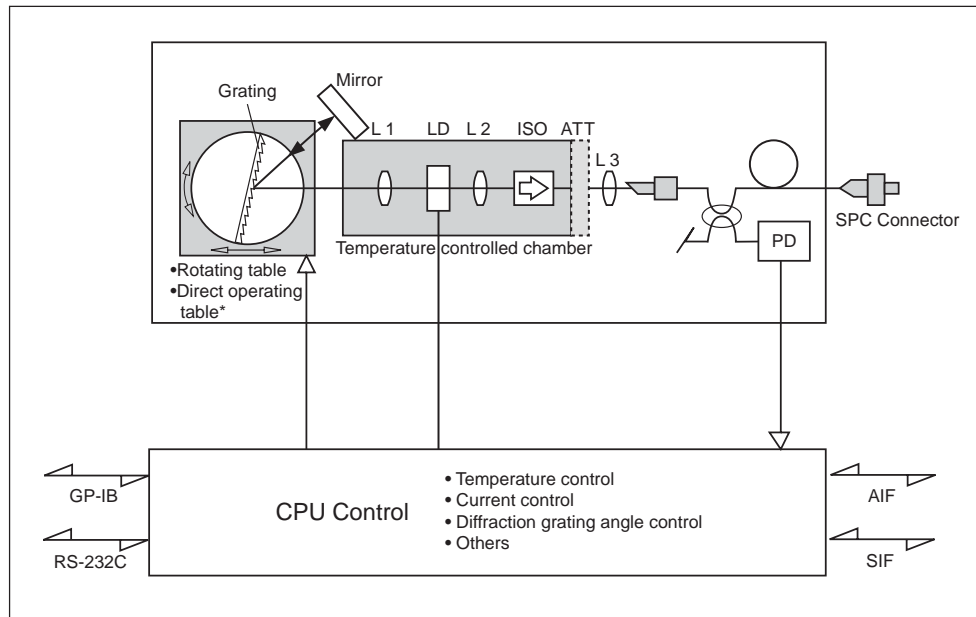

FIG.1 Structure diagram of TSL-210
The structure of the TSL-210 is shown in FIG 1. The basic design is a Fabry-Perot type where the semiconductor laser (LD) has one end Anti-Reflection (AR) coated. Within the LD chamber, the LD, a lens in cavity and an output lens (to make up the external cavity), while an isolator prevents light from re-entering the chamber. Temperature control of the chamber is accomplished via a Peltier device. As shown in FIG 1, the light emitted from the AR coated surface of the LD is collimated by the lens. The wavelength is then selected by the diffraction grating; the light is then reflected by mirror back through the diffraction grating where the wavelength is selected again, and then the wavelength component dissipated at the same angle as the incident angle is combined from the AR coated surface of the LD by the lens again. With current injected into the LD, if the return light from the diffraction grating and the gain inside of the LD are sufficient, laser oscillation will be carried out by the external cavity structure. The use of diffraction grating as a reflecting mirror to configure the external cavity structure enables oscillation in single vertical mode; high-precision control of the diffraction grating allows for tuning of the oscillated wavelength.